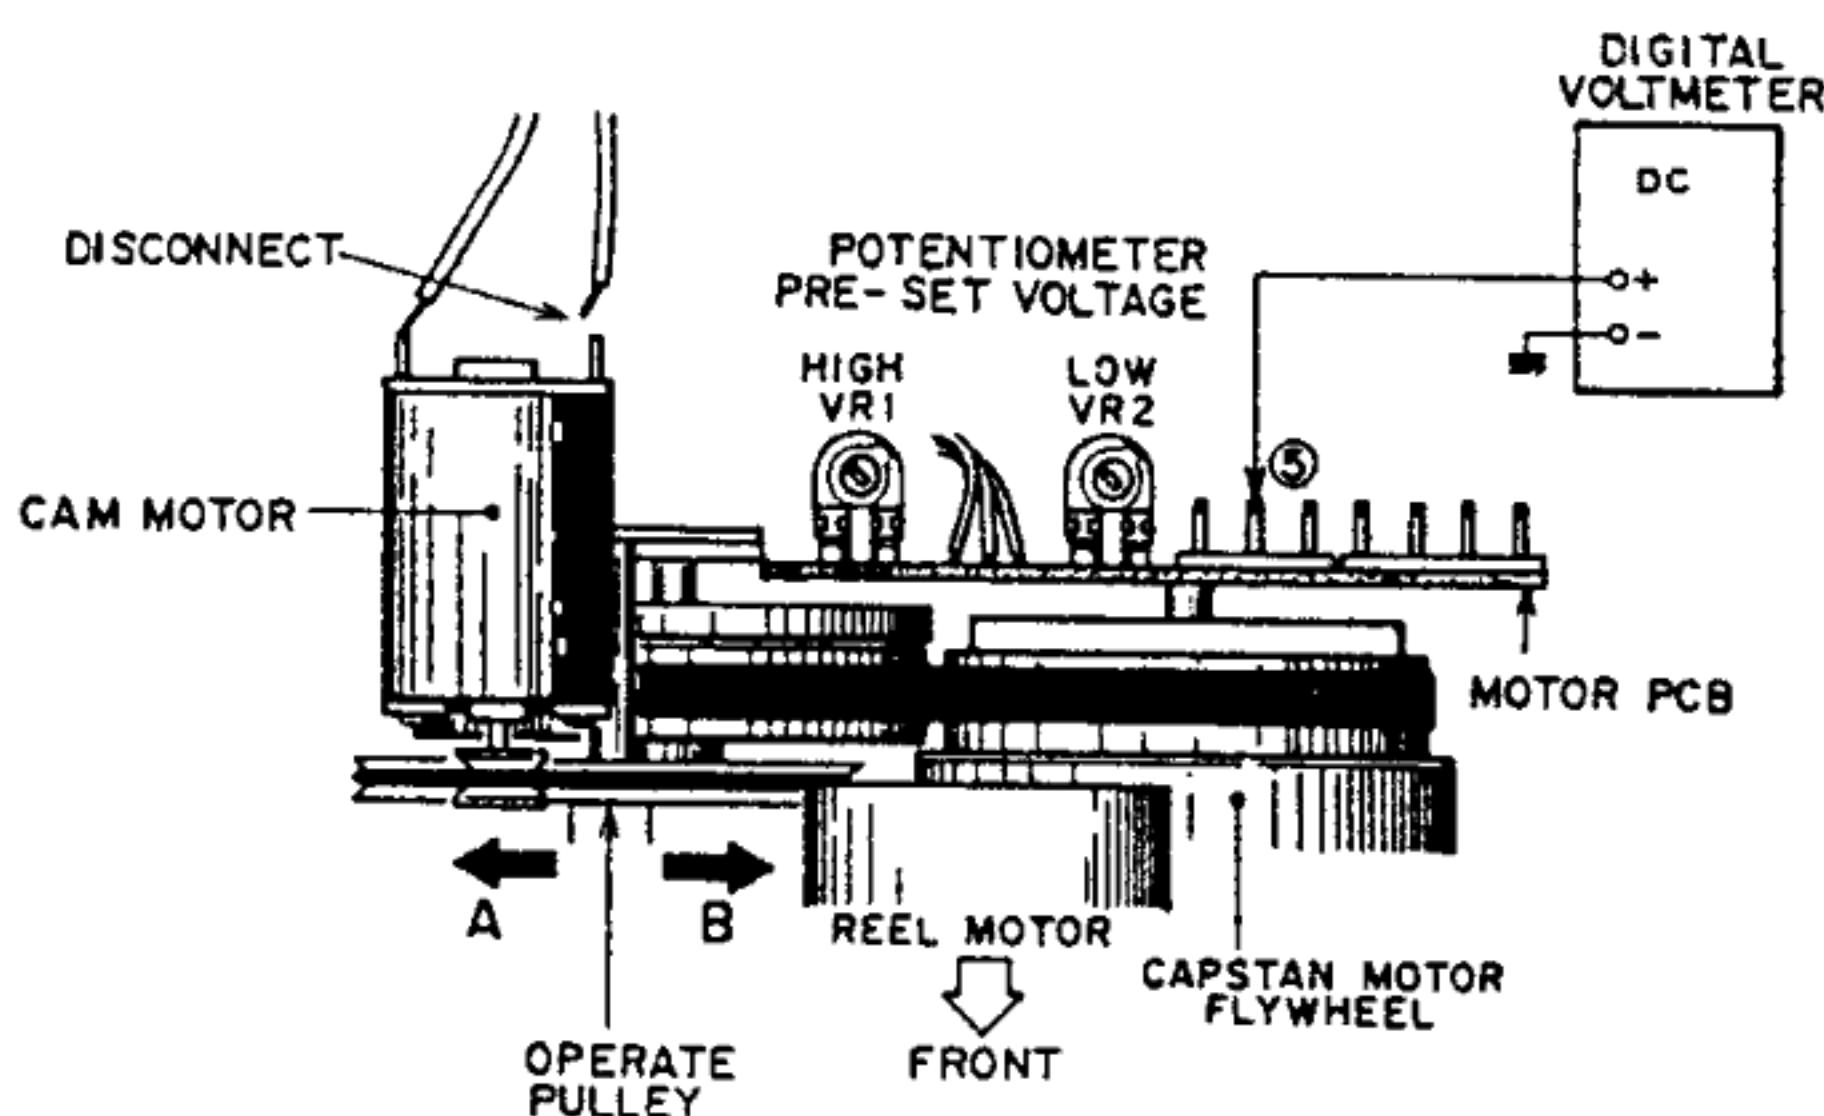

Fig. 4-1
### 4-1. POTENTIAL VOLUME PRESET VOLTAGE ADJUSTMENT (Refer to Fig. 4-1, 4-2)
- Connect the digital voltmeter as shown in Fig. 4-1.